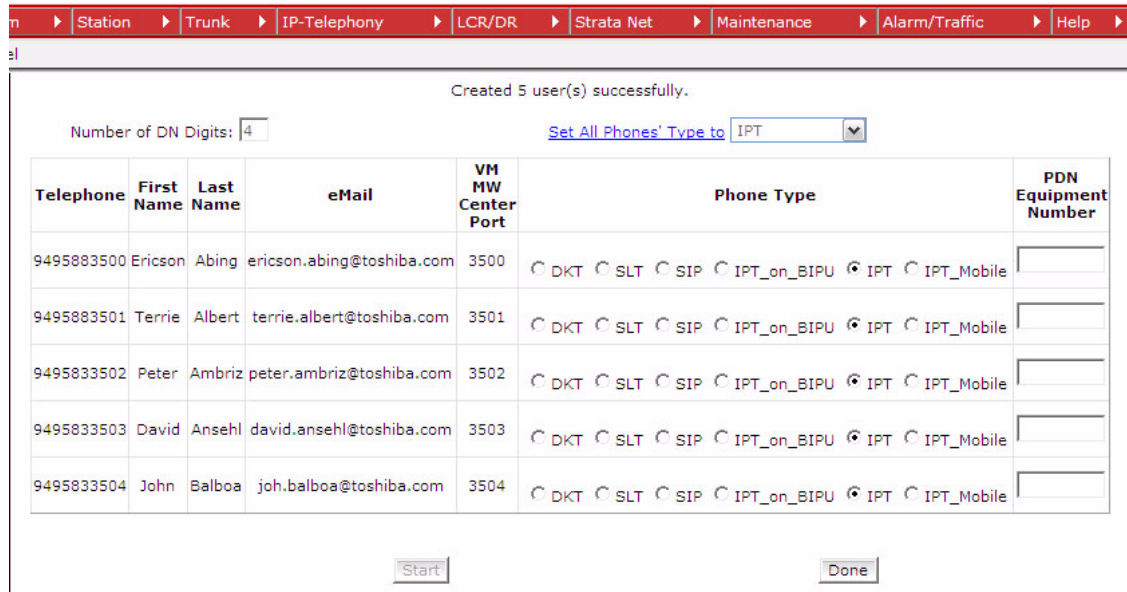

Figure 2-9. Created Users
- Figure 2-9 shows that 5 users were created successfully.